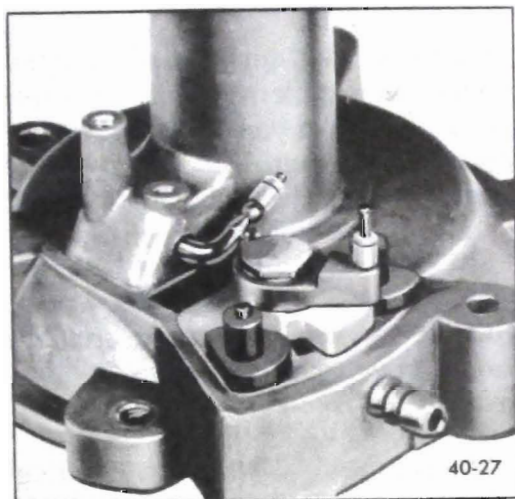

Figure 40-33 - Removal of Distributor Valve
1. Remove screw, washer, distributor arm assembly, washer and distributor valve bushing. See Figure 40-33.